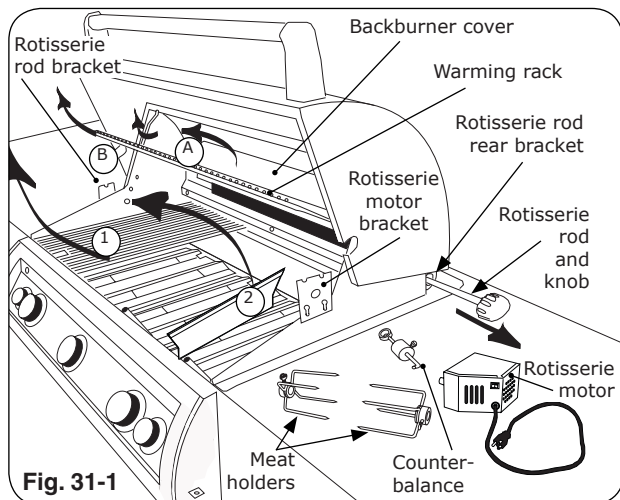

Fig. 31-1
2. Slide rotisserie motor fully onto motor bracket (right side, Fig. 31-1 and 31-2).
3. Remove rotisserie rod from rear bracket (Fig. 31-1) and attach knob if necessary.